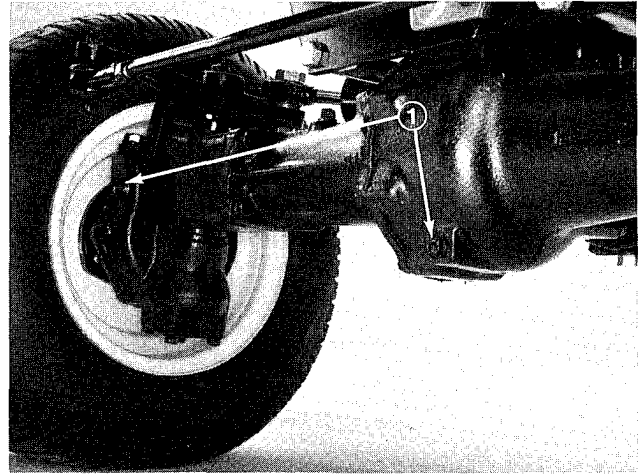

Figure 50
CHANGING REAR AXLE LUBRICANT (Model 30455 only) (Fig. 50)
2. Clean area around the (3) drain plugs, (1) on each end and (1) in the center (Fig. 50).